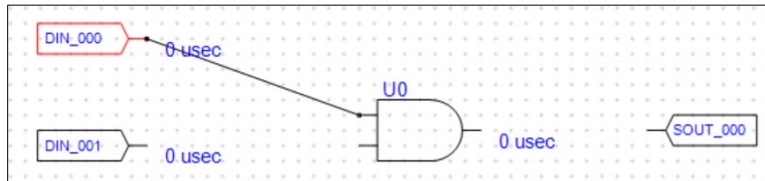

Figure 59 - DIN_000 Selected
- 1) Select the object to be moved, as shown in Figure 59 - DIN_000 Selected.